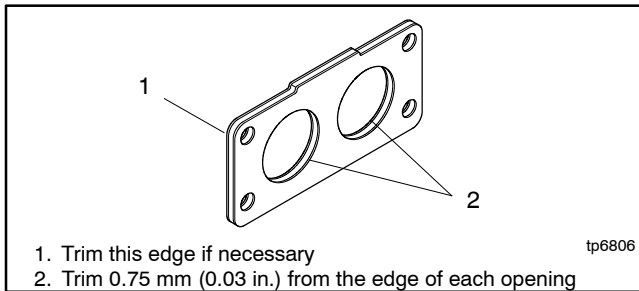

Figure 5-11 Trimming the Carburetor Gasket
- a. Yes? Trim the carburetor gasket and test the operation before replacing the carburetor. See Figure 5-11.